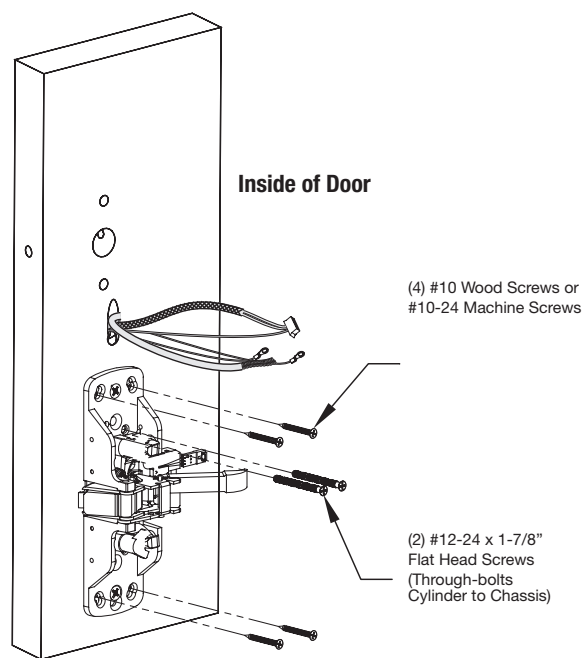

Fig. 6
2. Secure the cylinder by through-bolting the cylinder through the exit chassis using (2) #12-24 x 1-7/8" connecting screws (see Fig. 6).